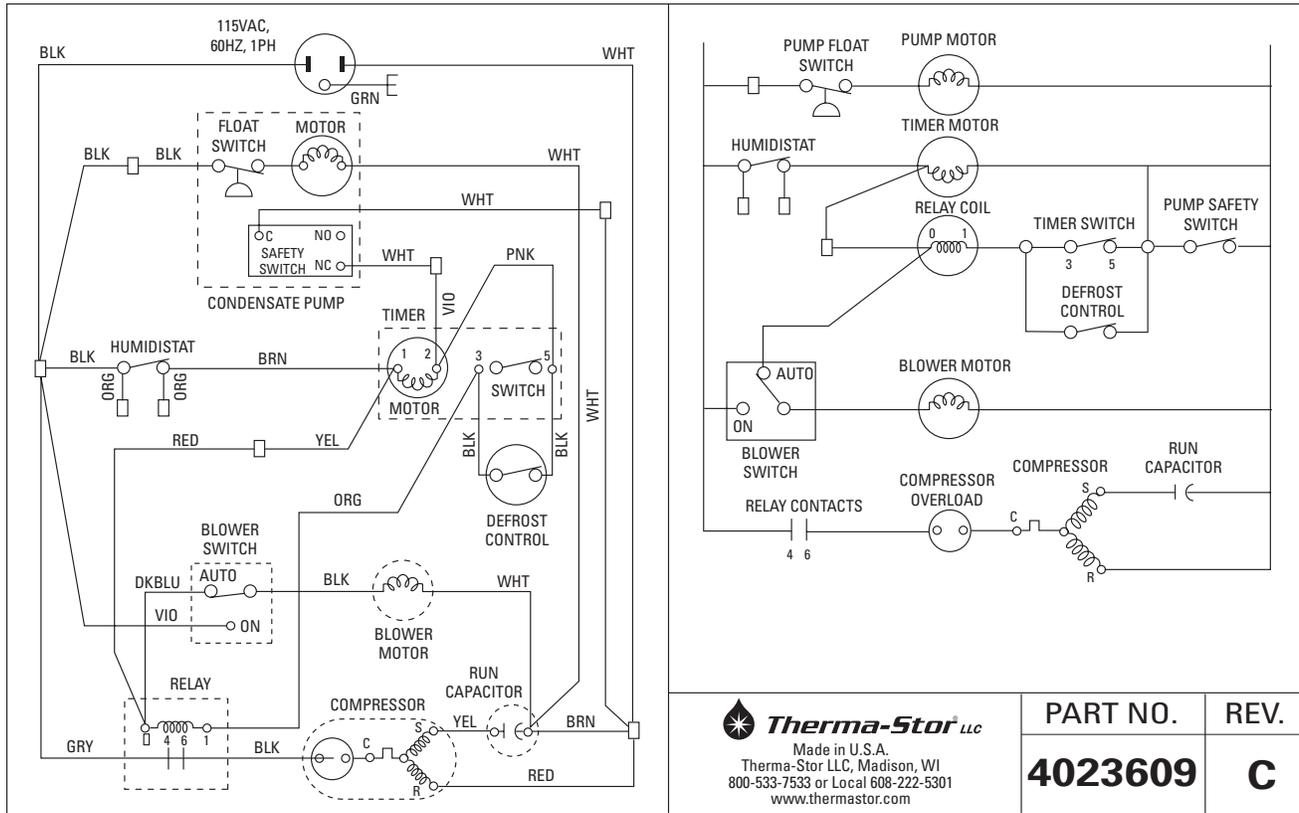

Figure 4: Electrical Schematic of HI-E Dry 195
3. Loose connection in compressor circuit (see Fig. 4).
1. Bad connection in compressor circuit (Fig. 4).
7. Bad connection in pump circuit (Fig. 4).
1. Loose connection in blower circuit (Fig. 4).
3. Bad connection in pump circuit (Fig. 4).
This compressor is equipped with a two terminal external overload, run capacitor, but no start capacitor or relay (see Fig. 4).